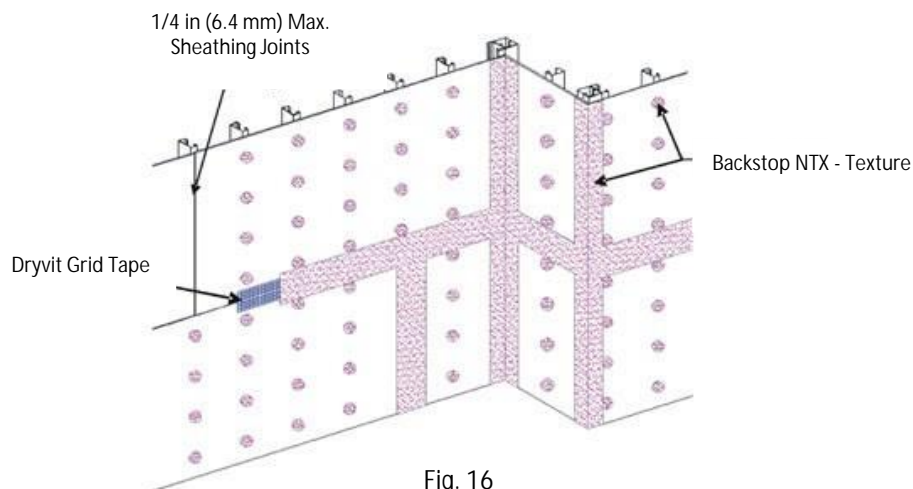

Fig. 16
- a. Apply Dryvit Grid Tape as described in Section VI.E.1 above. Mix the Backstop NTX - Texture material as described in Section III.B.2. Using a stainless steel trowel or spatula, apply a layer of Backstop NTX - Texture over the Dryvit Grid Tape and spot all fastener heads – Figure 16.